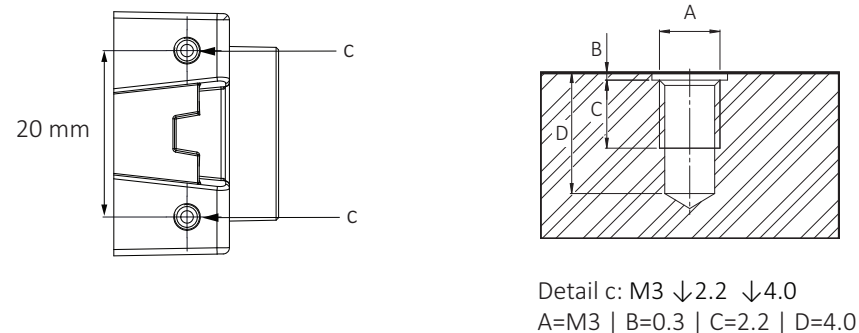

Figure 60: Top and bottom and mounting threads (c)
1. Mount the camera to the base using suitable M3 screws at 0.51 Nm maximum torque for a thread engagement (C) of 2.2 mm between screws and mounting threads, see Figure 60. For technical drawings, see Dimensions and mass on page 127.